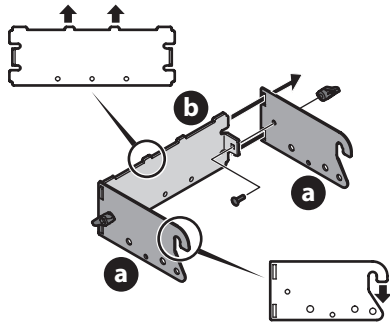

Figure 1
1. Put together the rider hitch bracket assembly (689-00304A) by attaching the two hitch side brackets (a) to the rear plate (b) using two carriage bolts (710-0276) and wing knobs (720-04122) from hardware pack (689-02364). See Figure 1.
**NOTE:** The hooks on the side brackets (a) should point downwards and the tabs on the rear plate (b) point upwards as shown in Figure 1.